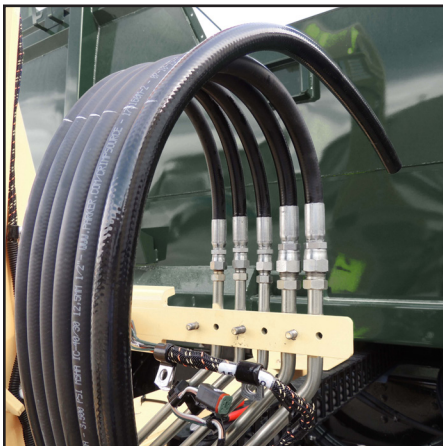

Figure 5
9. At the upper portion of the hose assembly, disconnect all five hoses from their fittings using a 1" wrench and an 11/16" wrench (Figure 5).